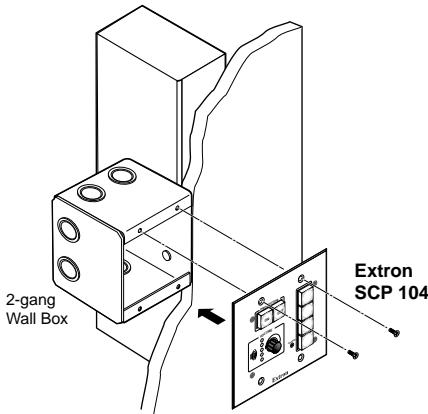

Figure 18. Mounting an SCP 104 in a Two-gang Electrical Box
- Figure 18** on the next page shows an SCP 104 mounted in a two-gang electrical box.